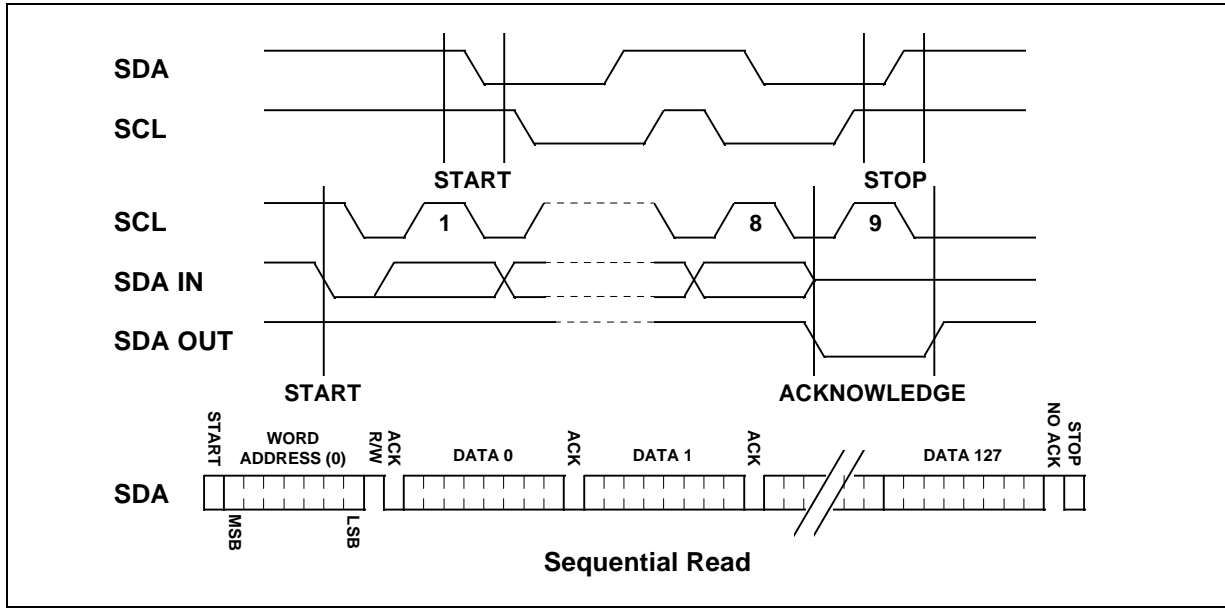

Figure 7.4 EEPROM Timing Diagram
Refer to Figure 7.4, a sequential read is initiated by the W9967CF with a start condition followed by a 7-bit data word address (always 0) and a high read bit. The E²PROM will respond with an acknowledge and then serially output 8 data bits. After the W9967CF receives an 8-bit data word, it responds with an acknowledge. As long as the E²PROM receives an acknowledge, it will continue to increment the data word address and serially clock out sequential data words. The sequential read operation is terminated when the memory address limit (TL) is reached and the W9967CF does not respond with an acknowledge but does generate a following stop condition.